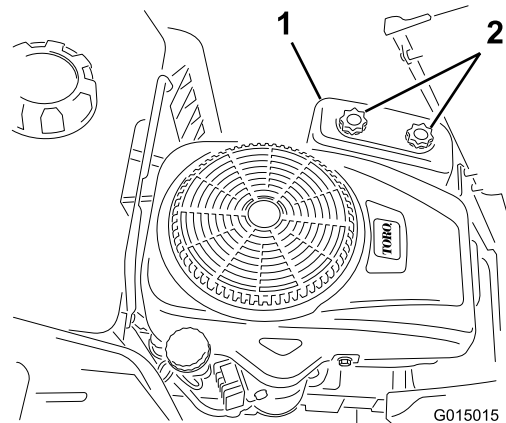

Figure 22
5. Remove the air-cleaner cover by unscrewing the 2 knobs (Figure 22).